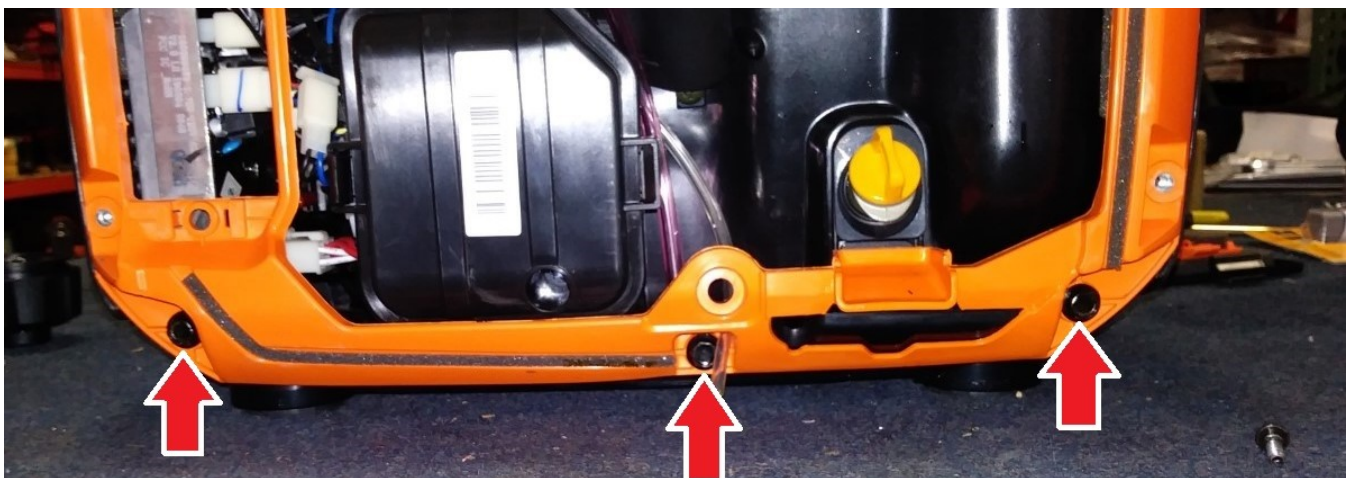

Fig. 5: Remove these 3 bolts from the bottom of each side of the housing (6 bolts total).
8. Use the 10mm socket and ratchet to remove the 3 bolts at the bottom of the generator's shells (Fig. 5).